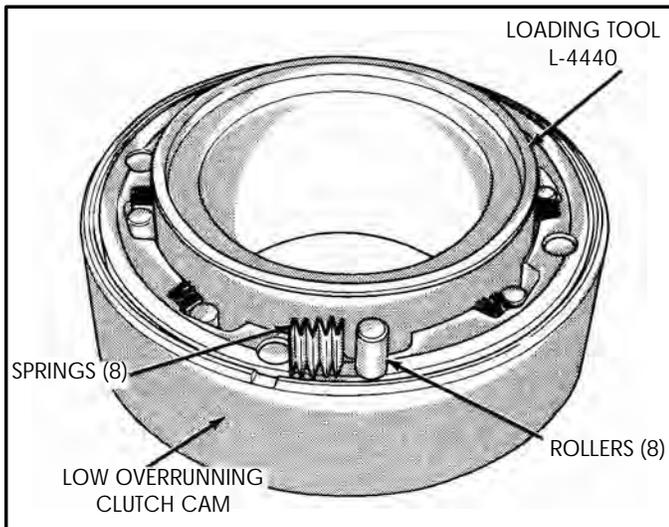

Figure 61
1. Place the low overrun cam on a flat working surface, as shown in Figure 61.
2. Install the loading tool L-4440 into the overrun clutch cam, as shown in Figure 61.
3. Install *new* overrun clutch rollers and springs, eight of each, as shown in Figure 61.